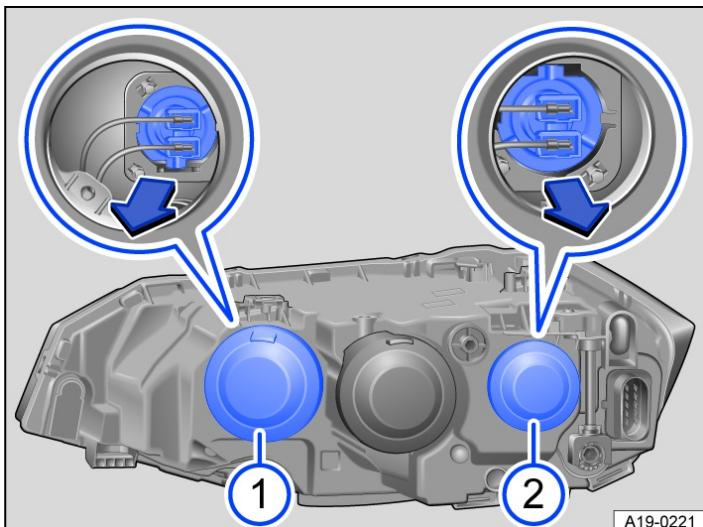

Fig. 1 In the engine compartment: rear view of right-hand headlight.
The illustration → *Fig. 1* shows the right-hand headlight. The left-hand headlight is a mirror image of the one shown.
2. Pull the rubber cover → *Fig. 1* 1 from the rear of the headlight.